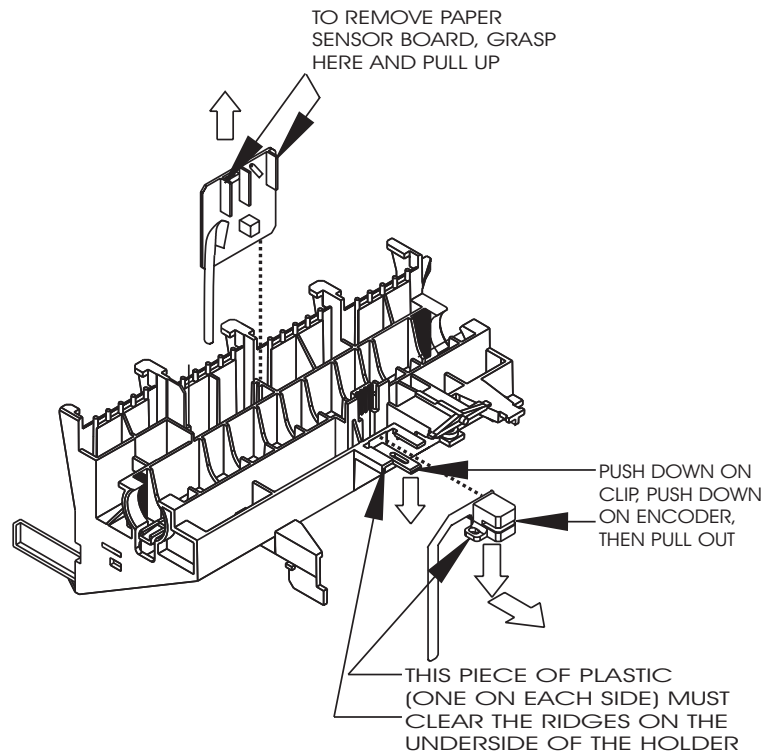

Figure 5-14. Paper and Encoder Sensor Removal.
- b. Turn the Carriage Assembly over and hold it while firmly grasping the Paper Sensor between thumb and index finger. See Figure 5-14.
- c. Push down on the plastic clip and at the same time push down on the Encoder until the plastic pieces on each side of the Encoder clear the ridges which hold it in place. Then pull it straight out. See Figure 5-14.